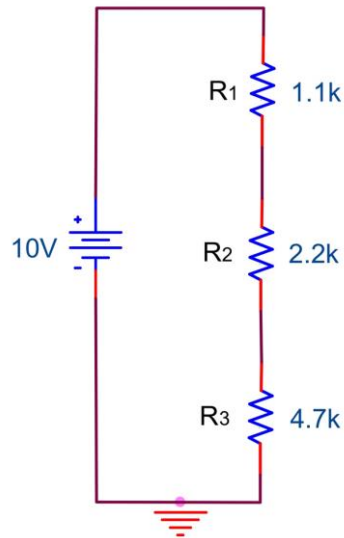

Figure 5.18
1. Use PSPICE to display all voltages and currents, refer to Figure 5.18. Compare these values to the ones obtained in the laboratory.